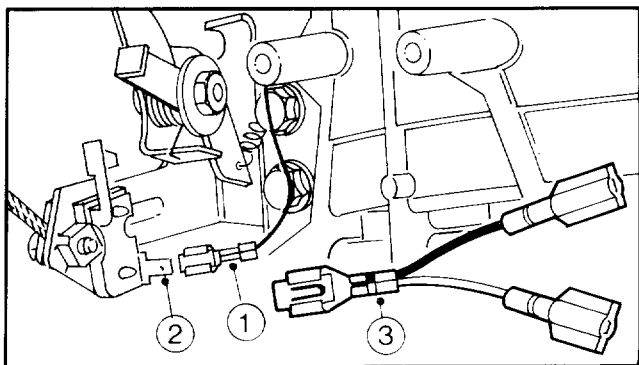

Figure 3
1. Remove ignition coil wire from throttle-stop terminal. Use screwdriver to press in locking tab on terminal, if needed (Fig. 3).
2. Connect female terminal of wiring assembly to throttle-stop terminal. Make sure terminals are positioned as shown in Fig. 3 and locked firmly together.